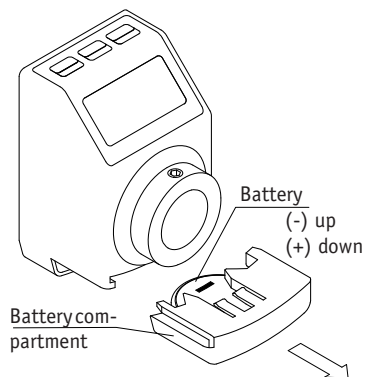

Fig. 4: Battery change
- See to it that the polarity is correct when you insert the battery (see fig. 4). Wrong polarity causes loss of programmed values.
For replacing the battery perform the following steps (see fig. 4):